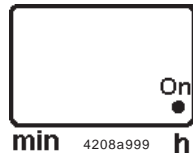

Fig. 17 - Green decimal point (pause time)
- Pump "On" is indicated on the display by an **illuminated decimal point** (pause time) (fig. 17).